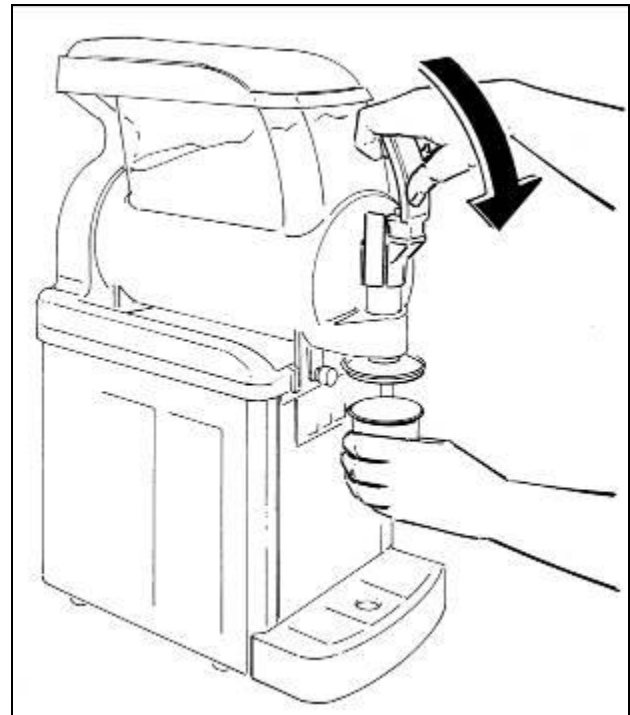

Fig. 29
- Once the desired product consistency is reached, to dispense product position a cup under the tap, push the dispensing button and lower the lever as shown in figure 29.